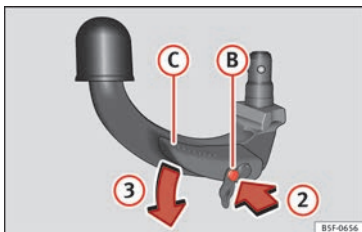

Fig. 215 Step 2.
- Press the release bolt ② in the direction of arrow ②, and at the same time press lever ③ in the direction of arrow ③ as far as it will go »» Fig. 215.